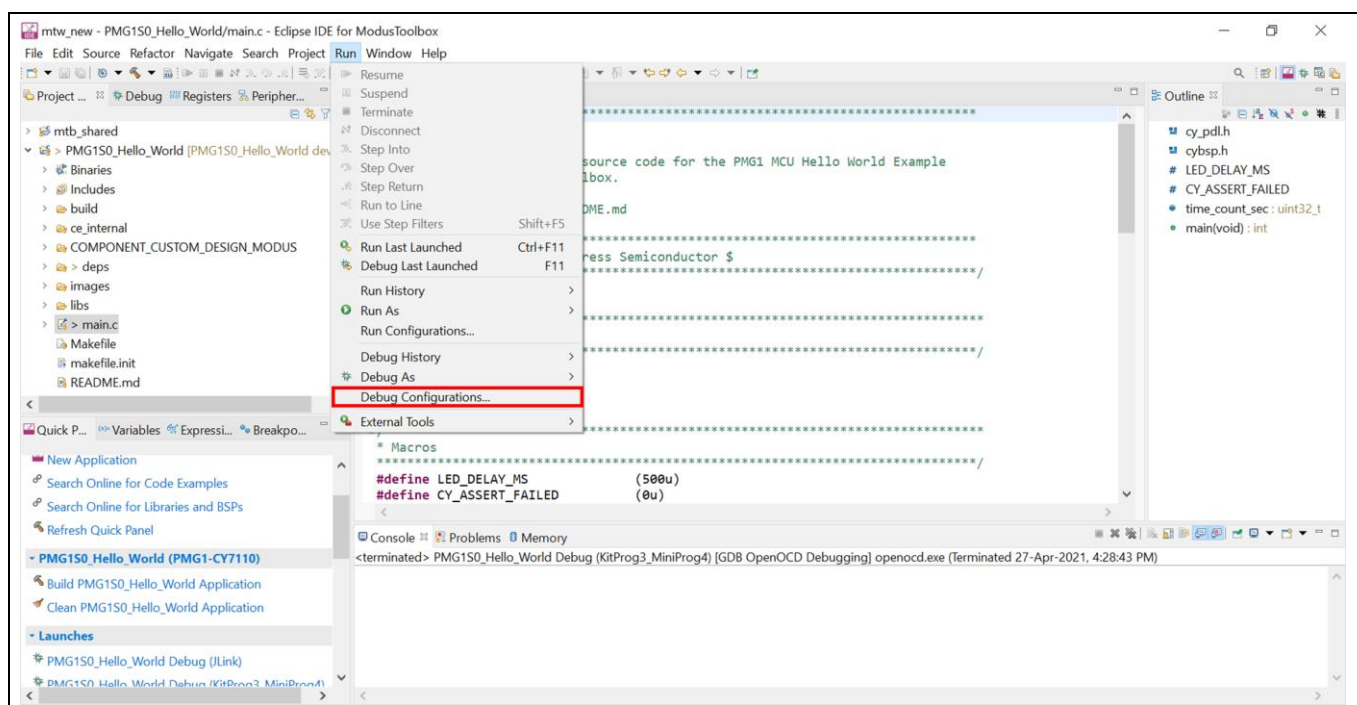

Figure 25 Selecting Debug configurations from the Run menu
7. Go to **Run** menu, click on **Debug Configurations**, as shown in Figure 25.